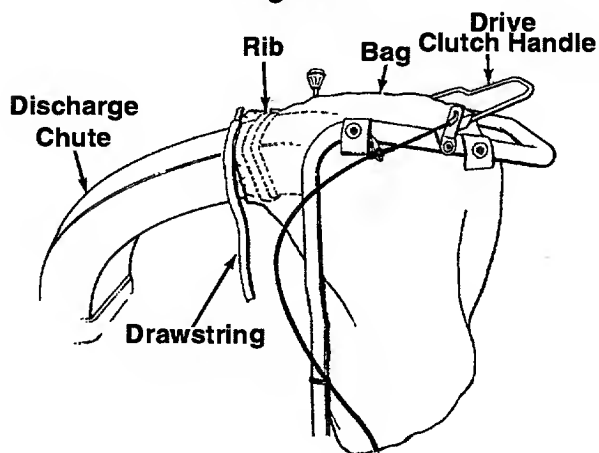

Figure 6
1. Place bag inside of handle assembly. Slip the opening on the bag over the discharge chute, making certain it is over the rib on the discharge chute. See Figure 6.